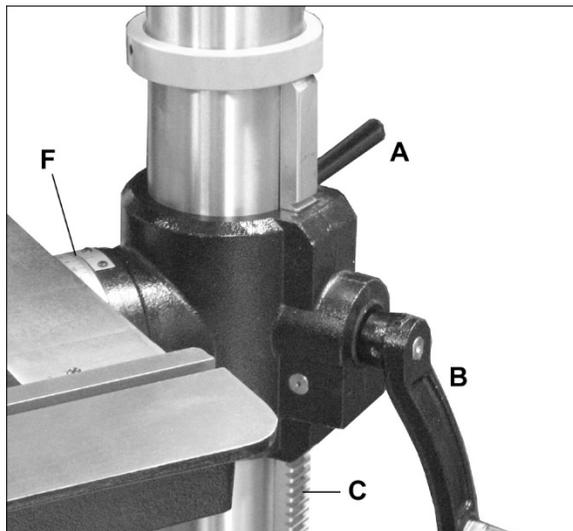

Figure 8-1
Loosen column locking handle (A, Figure 8-1). Turn crank handle (B) to raise or lower table along column rack. Re-tighten locking handle (A) before attempting to drill.
Refer to Figure 8-1.
1. Loosen lock handle (D) to tilt. If table will not move, slightly loosen hex screw (E).
2. Pivot table to desired angle by referring to scale and indicator plate (F, Figure 8-1).